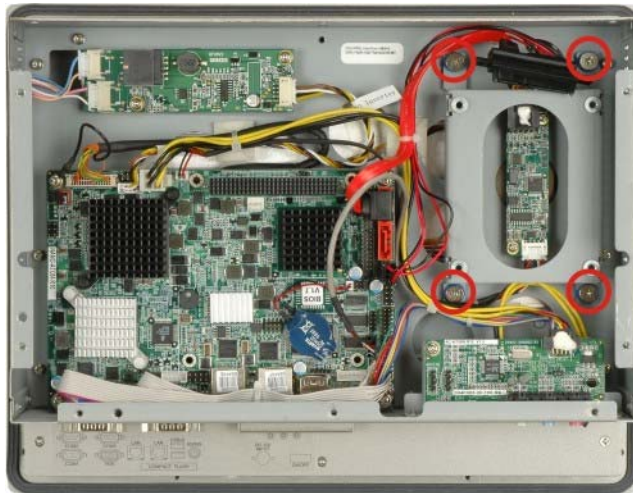

Figure 4-8: PPC-3710 HDD Bracket Retention Screws
Step 2: Remove the HDD bracket from the PPC-3710. The HDD bracket is attached on the PPC-3710 with four retention screws inside the chassis (**Figure 4-8**).